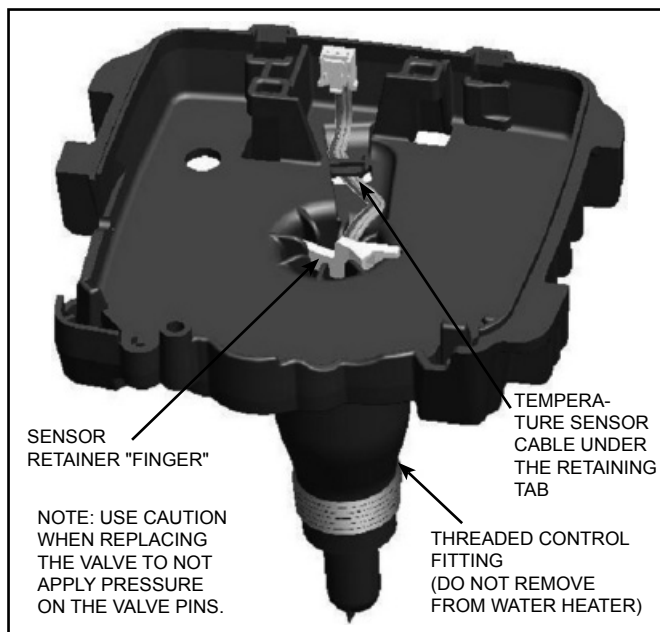

Figure 25
6. Use a screwdriver to pry under the sensor retainer finger to remove the temperature sensor and cable (see Figure 25).